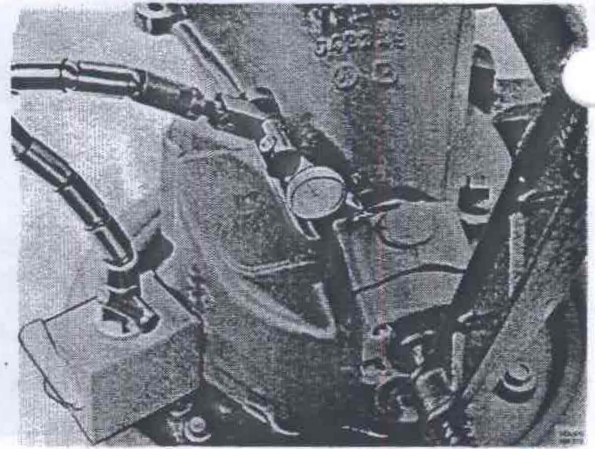
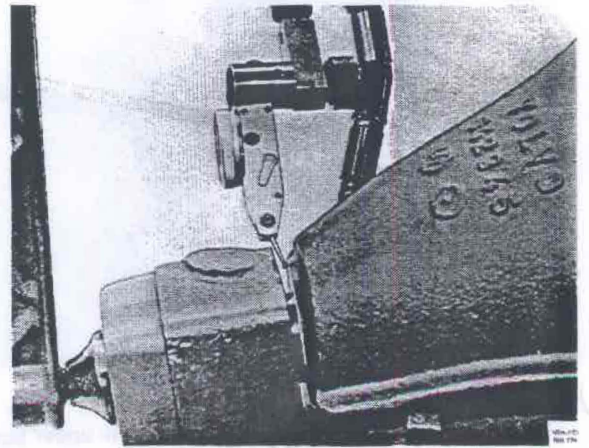

Fig. 63-11. Placing the dial indicator
Fig. 63-12. Dial indicator pointer setting
5. Place a dial indicator according to Fig. 63-11 and zero-set it. Note the measuring pointer position, see Fig. 63-12.